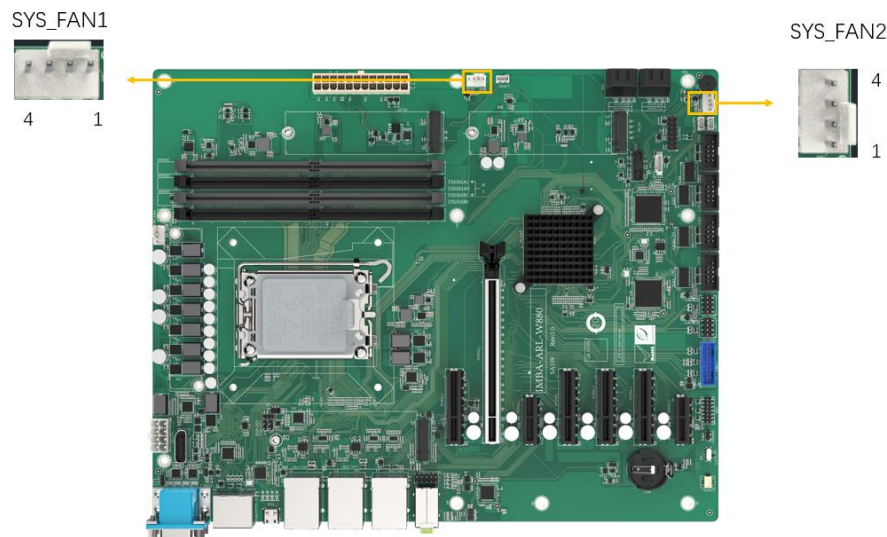

Figure 3-9: System Fan Connector Locations
**CN Location:** See Figure 3-9